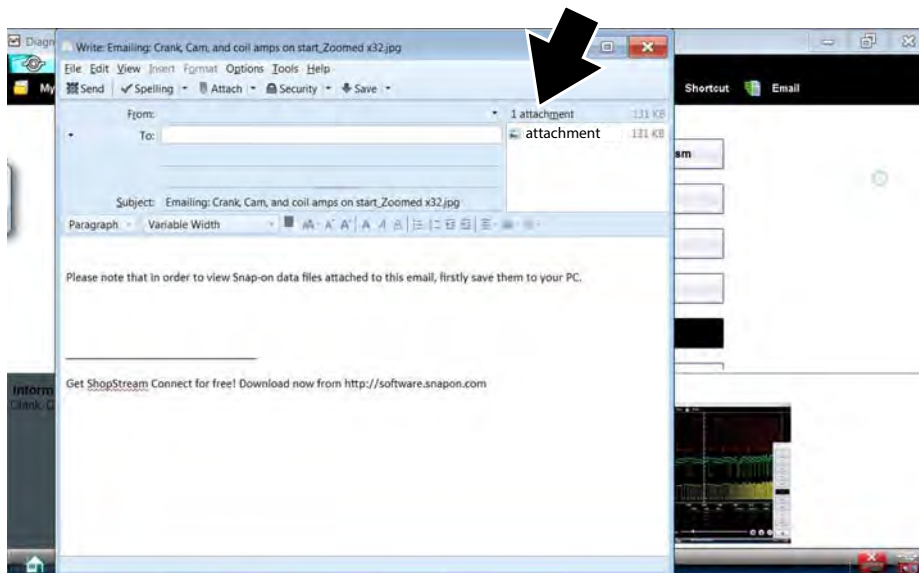

Figure 10-8
3. A new e-mail message window displays with the selected file attached (Figure 10-8).